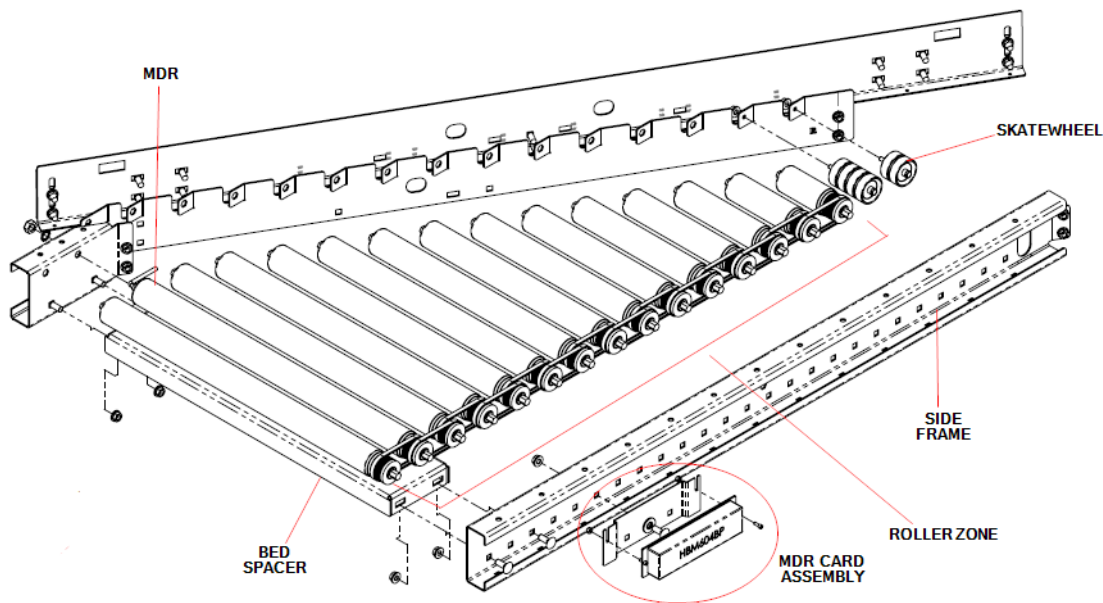

Figure 1: General Arrangement Exploded View of RLSDC
Figure 1: General Arrangement Exploded View of RLSDC.....	7
The Roller Live Spur DC Conveyor (RLSDC) is used to create linear transitions into intersecting lines of conveyor positioned at a non-perpendicular angle. RLSDC is designed with a brushless 24V DC motor called an MDR. The MDR is placed near the widest end of the spur and drives non-powered rollers that are connected by Poly-V bands. The rollers are “live” meaning that they run continuously whenever the MDR is energized. The RLSDC is optimal for cartons and totes. The model shown in Figure 1 serves as a reference to become familiar with the components and terminology used in this manual. These terms will be used throughout the manual and are common among many of the other ZiPline Conveyor product lines.
The model in Figure 1 is a 30" overall width (OAW) RLSDC bed section with 3" roller centers and has (1) zone. The zone is made up of (14) rollers, (6) skate wheels and (1) MDR. All rollers (powered and non-powered) are designed to be connected by Poly-V bands that distribute the torque generated by the MDR to the rest of the spur.